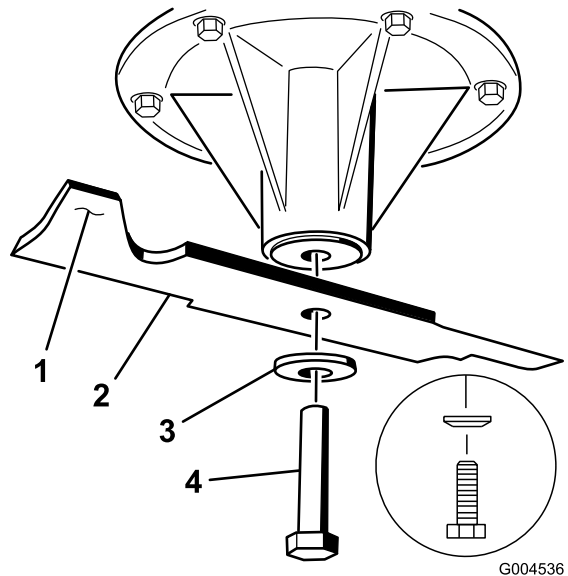

Figure 95
position, the blade is balanced and can be used. If the blade is not balanced, file some metal off the end of the sail area only (Figure 95). Repeat this procedure until the blade is balanced.
1. Install the blade onto the spindle shaft (Figure 95).
2. Install the spring disk and blade bolt. The spring disk cone must be installed toward the bolt head (Figure 95). Torque the blade bolt to 85-110 ft-lb (115-150 N-m).